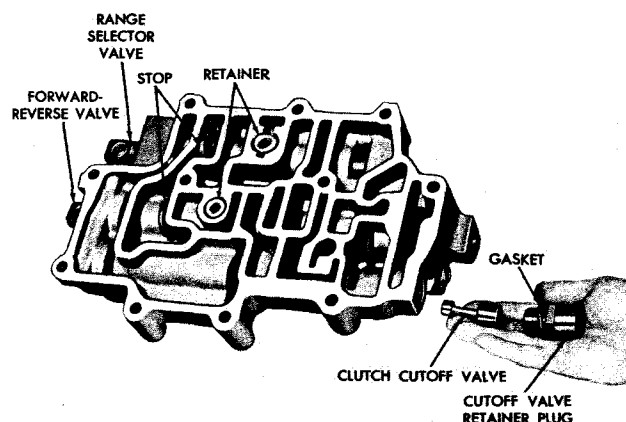

Fig. VI-7. Removing (or installing) clutch cutoff valve components—later model
(1) Remove the cutoff valve retainer plug, gasket, and cutoff valve (fig. VI-7).
(3) Install the clutch cutoff valve, small diameter first, into the valve body. Install the assembled valve plug, seal, cup retainer plug, and gasket into the valve body (fig. VI-7).